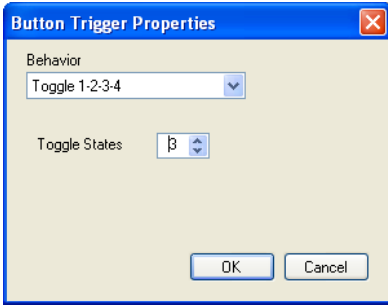

Figure 100: Button Trigger Properties Window (Toggle 1-2-3-4)
- **Toggle 1-2-3-4:** select the number of toggle states (from 2 to 10). With each press of the button, the next toggle is activated¹. When in the last toggle, the next press of the button will activate the first toggle once again. It is recommended that you assign a button color command to each trigger so that you can identify each toggle by the color of the button. Figure 100 shows the toggle behavior Window: